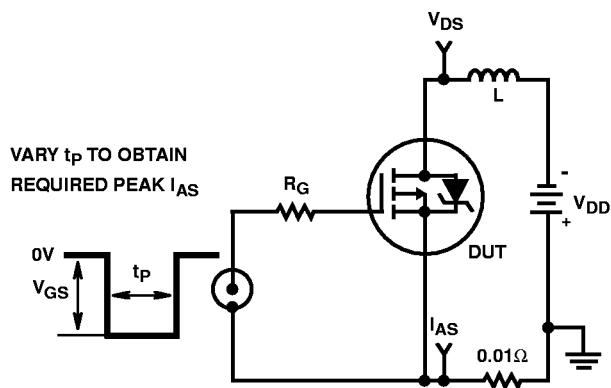

FIGURE 14. UNCLAMPED ENERGY TEST CIRCUIT
3. $V_{DD} = 25\text{V}$, starting $T_J = 25^\circ\text{C}$, $L = 582\text{mH}$, $R_G = 25\Omega$, peak $I_{AS} = 0.7\text{A}$. See Figures 14, 15.